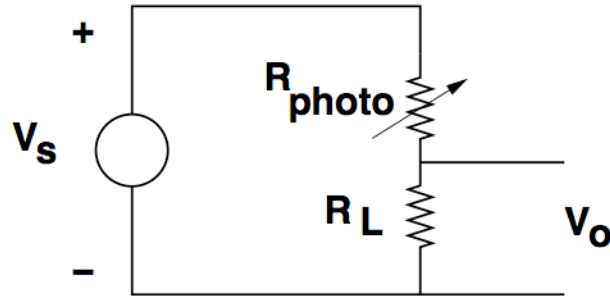

Figure 10: Light-sensing divider circuit
To do something useful with these photoresistors, we will use them in simple voltage dividers, as is shown in Figure 10.
**Question 9:** Build the photosensing voltage divider Using the resistance you estimated as the optimal (or whatever standard value of resistance is closest), build the photosensing voltage divider of Figure 10. Power it up and measure the voltage out with a voltmeter. Cover the photoresistor with something opaque to put it in the dark and note voltage. Shine a bright light on it and measure the output voltage. Does it do what you predicted in Exercise 7?